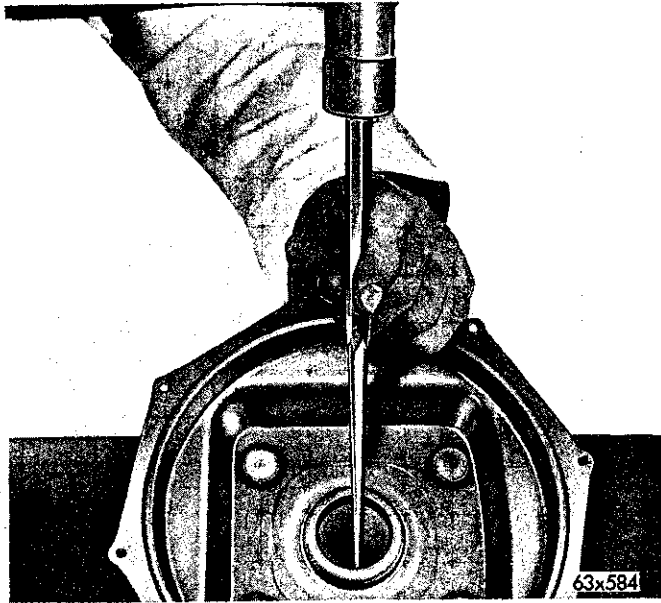

Fig. 23—Removing Rear Seal
(13) Support the rear shell on two wooden blocks and drive out the rear seal (Fig. 23).